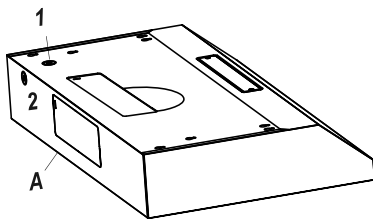
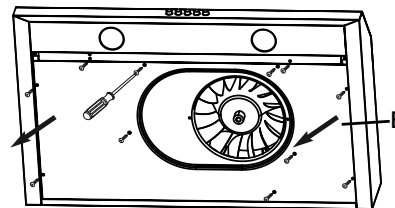

Fig. 10
Fig. 13
- Remove the bottom panel of the range hood (see Fig. 13) to access the electrical wire leads.
- Use the power supply cable to connect the range hood (A) directly to the junction box or circuit breaker box. Use a flexible, armoured, or nonmetallic sheathed copper cable only. Never use an extension cord or adapter plug.
- Connect a UL-listed or CSA-approved conduit connector to each end of the power supply cable (at the range hood and at the junction box). Connect the 2 colored wires from the range hood (A) to the corresponding wires from the electrical source: black to black (live), white to white (neutral), and the house grounding wire to the green ground screw. Use either the top hole (1) or the back hole (2) of the range hood depending on your installation type as shown in Fig. 10.
- Choose the appropriate electrical knock-out hole to remove for your installation type. Use the top hole (1) if your electrical supply is in the cabinet and the back hole (2) if your electrical supply is on the wall below the cabinet (refer to Fig. 10).
- The damper and the adapter are located inside the range hood. To access these parts, remove the bottom panel (E) if you have not previously done so (see Fig. 13).
- Choose to install the damper (C) either in the top position (3) for top venting or in the back position (5) for back venting. Adapter (D) installs to position 3 & 4 for top venting only.
- Attach damper (C) or adapter (D) over chosen knockout opening. Make sure the damper pivot is oriented on top such that the damper stays closed when not in use.
- Secure the damper (C) or adapter (D) to the range hood (A) with the short tapping screws (BB).
- Seal the damper (C) or adapter (D) to the range hood (A) on all four sides with duct tape.